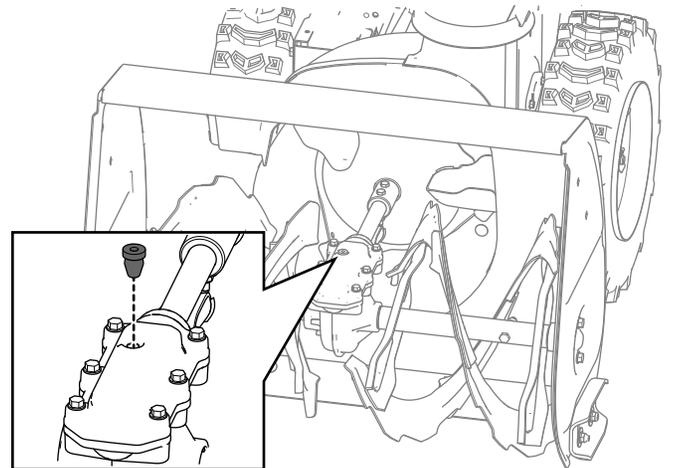

Figure 31
- 2. Clean the area around the pipe plug and remove the pipe plug from the gearbox (Figure 31).